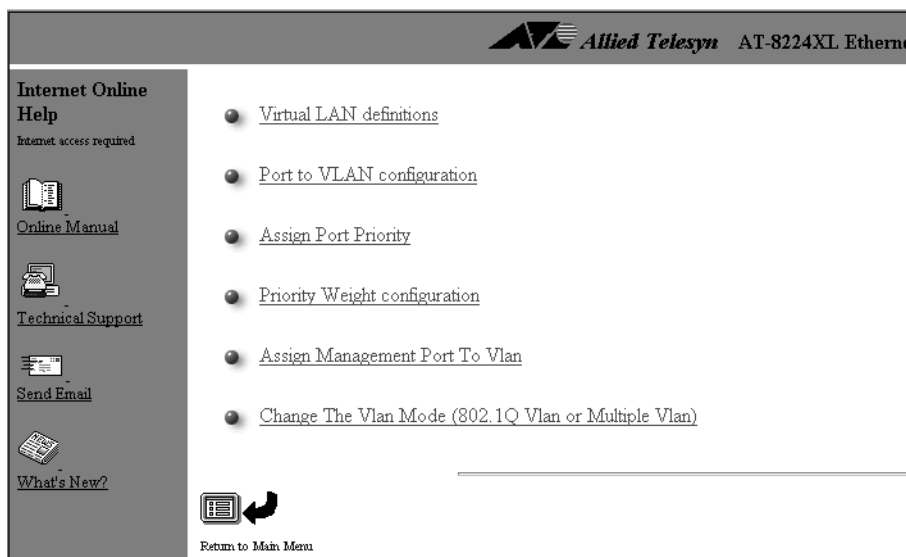

Figure 53 Virtual LAN/QoS Menu
1. From the Omega Main Menu, select *Virtual LANs/QoS*. The Virtual LAN/QoS menu in Figure 53 is displayed.